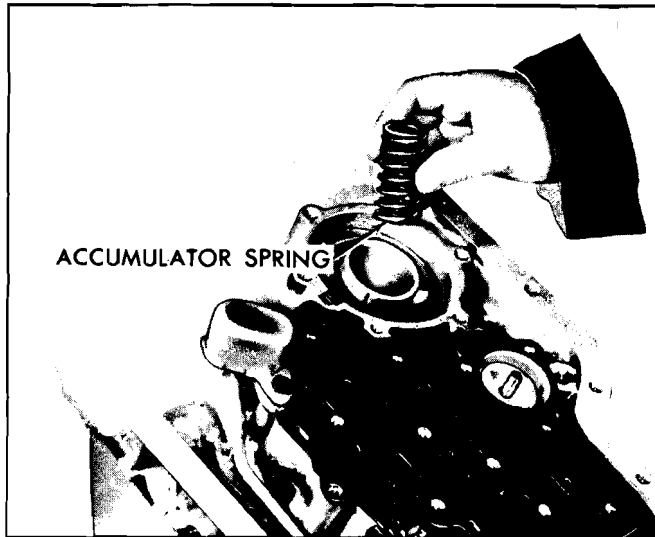

Fig. 7E-173 Installing Rear Accumulator Spring
1. Install control valve to spacer gasket (Fig. 7E-176).
3. Install two guide pins (control valve assembly attaching screws with heads removed) (Fig. 7E-177).